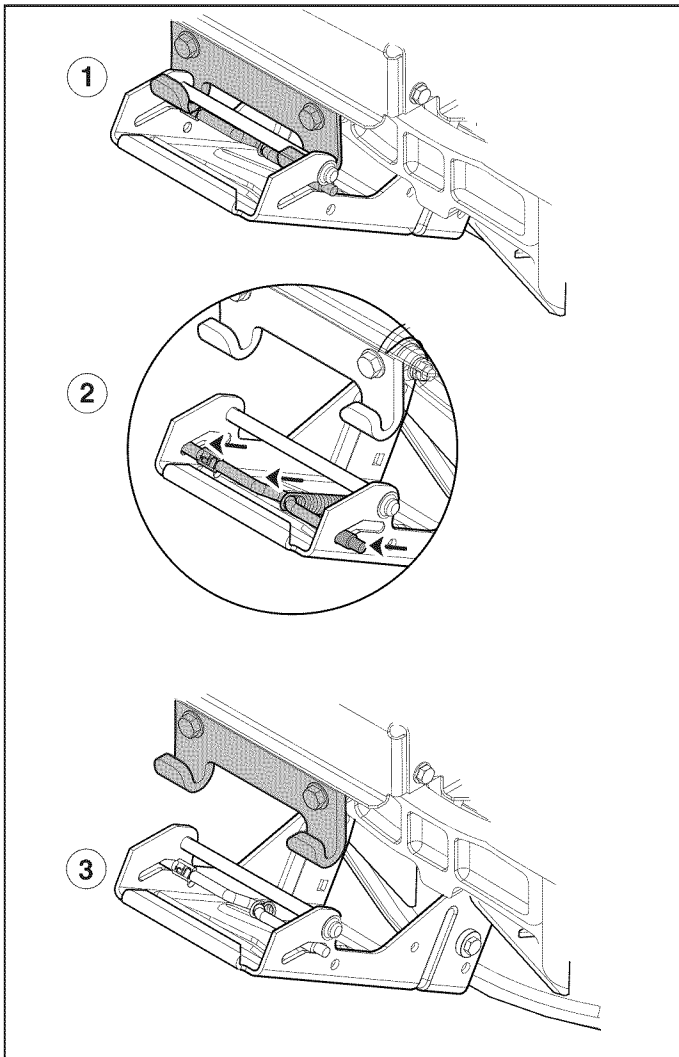

Figure 21
7. Turn the wheels straight ahead. Pull back on spring-loaded lever and lift mower hitch off of the tractor hitch brackets (see Figure 21).